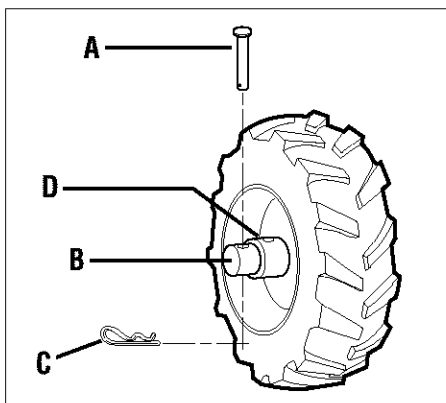

Figure 3-3: FREEWHEEL position.
5. FOR FREEWHEEL mode (Figure 3-3): Slide the wheel inward and insert the wheel drive pin (A, Figure 3-3) only through the hole in the wheel shaft (B). Secure the wheel drive pin with the hairpin cotter (C) by pushing the hairpin cotter in as far as it will go. Repeat for the other wheel and then remove the support from beneath the transmission.